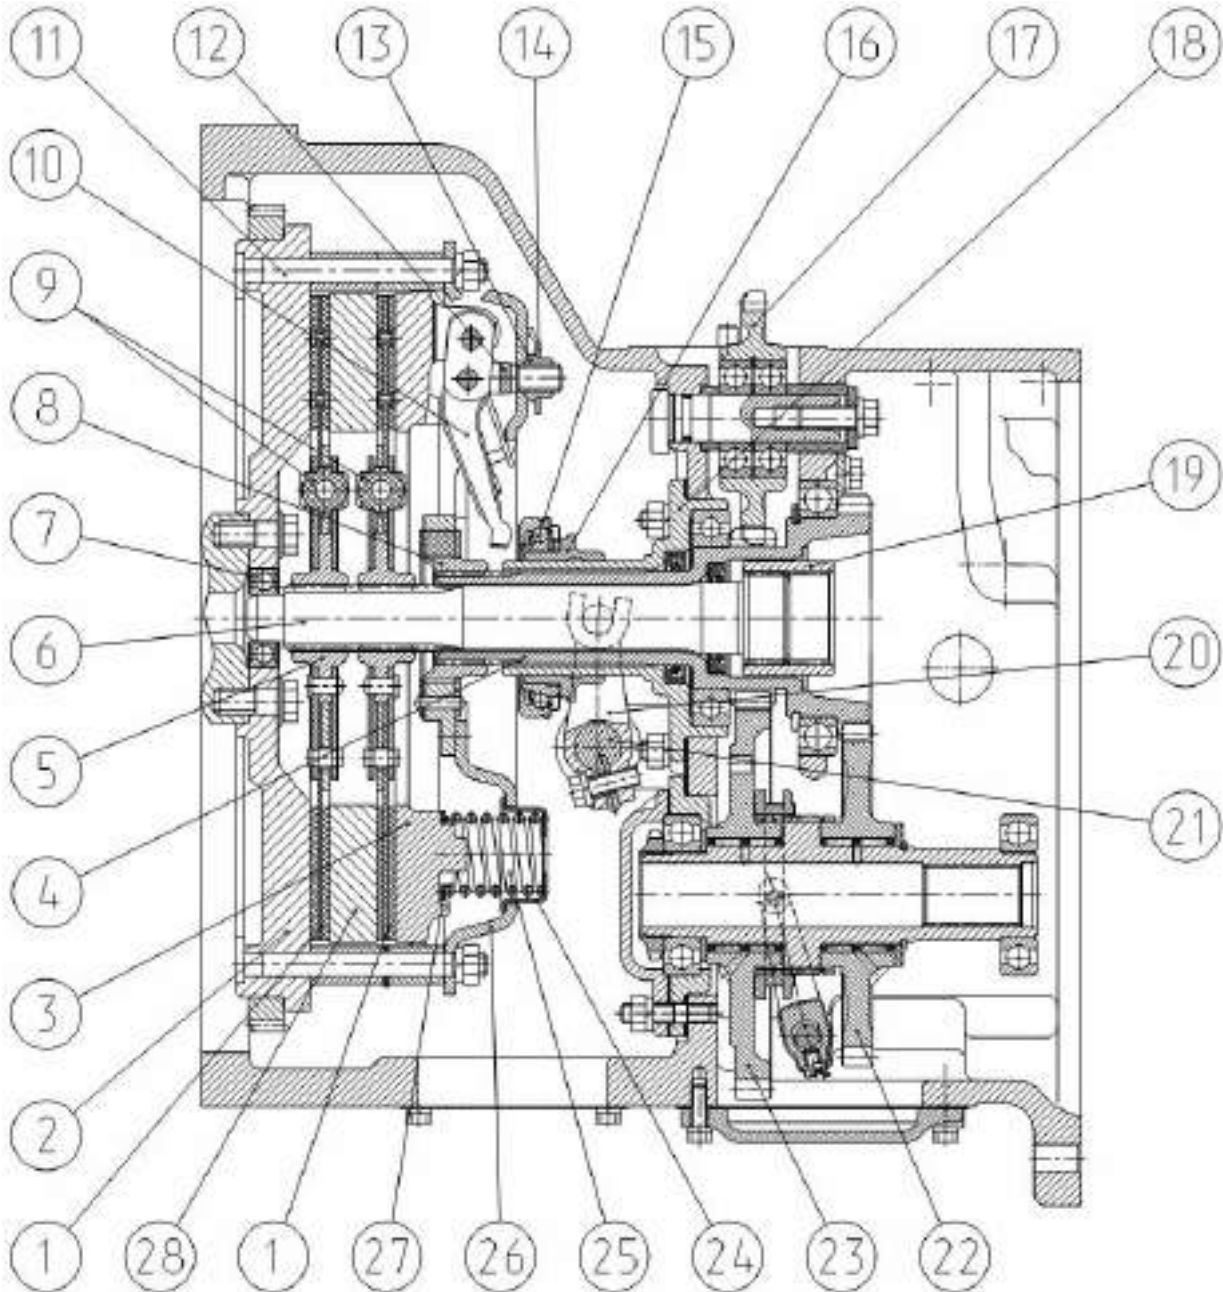
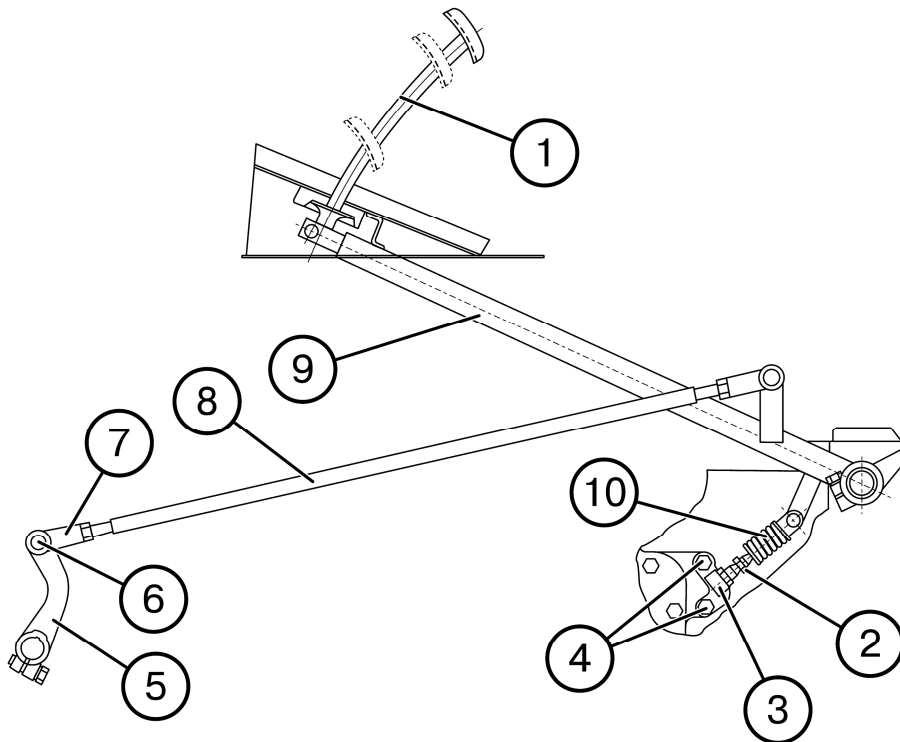

Fig. E-10. Clutch:
Fig. E-11. Clutch control:
The clutch (Fig. E-10) of the tractor consist of the clutch coupling (elements 1, 3, 5, 7-10, 12-14, 24-28 Fig. E-10) and clutch housing (elements 6, 15-23 Fig. E-10).
The clutch is disengaged by stepping on the clutch pedal (1) (Fig.E-11) which acts through the linkage (1), (5), (8) onto the retractor (16) (Fig. E-10) and the throw-out bearing (15).
When the pedal (1) is released (Fig.E-11), the clutch is engaged by the pressure springs (25) (Fig.E-10). The spring (10) of the servounit (Fig.E-11) makes the clutch engagement easier and always presses the lever (9) (Fig.E-11) against the cab floor when the clutch is engaged.